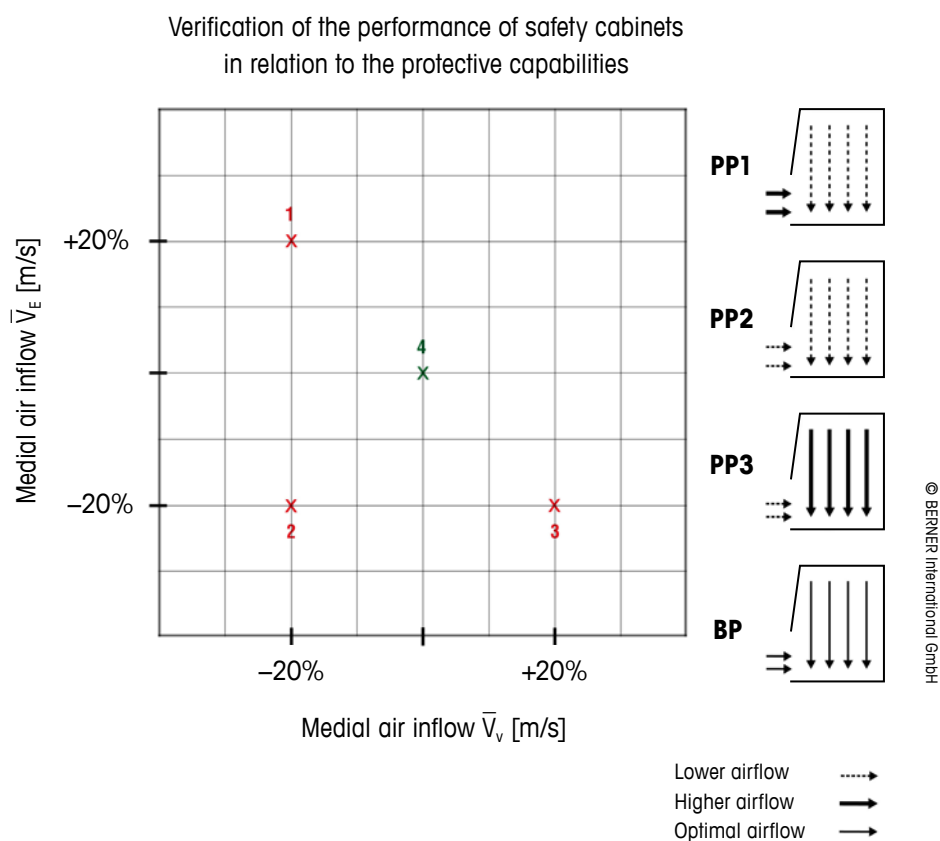

Figure 3: Performance testing for safety cabinets for cytotoxics according to DIN 12980:2017-05.
Other standards like the US standard ANSI NSF49 [6] or the above mentioned new German standard DIN 12980 for safety cabinets for cytotoxics require more extensive evaluations. For these, safety-cabinet performance is verified by microbiological tests at not only the standard setting (BP) but also on other settings with increased or decreased values for medial inflow or downflow at so-called provocation points PP1, PP2 and PP3. Figure 3 shows the scheme for varying inflow and downflow according to DIN 12980:2017-05. These intensive tests lead to a known performance range for this type of safety cabinet with increased user and material safety.